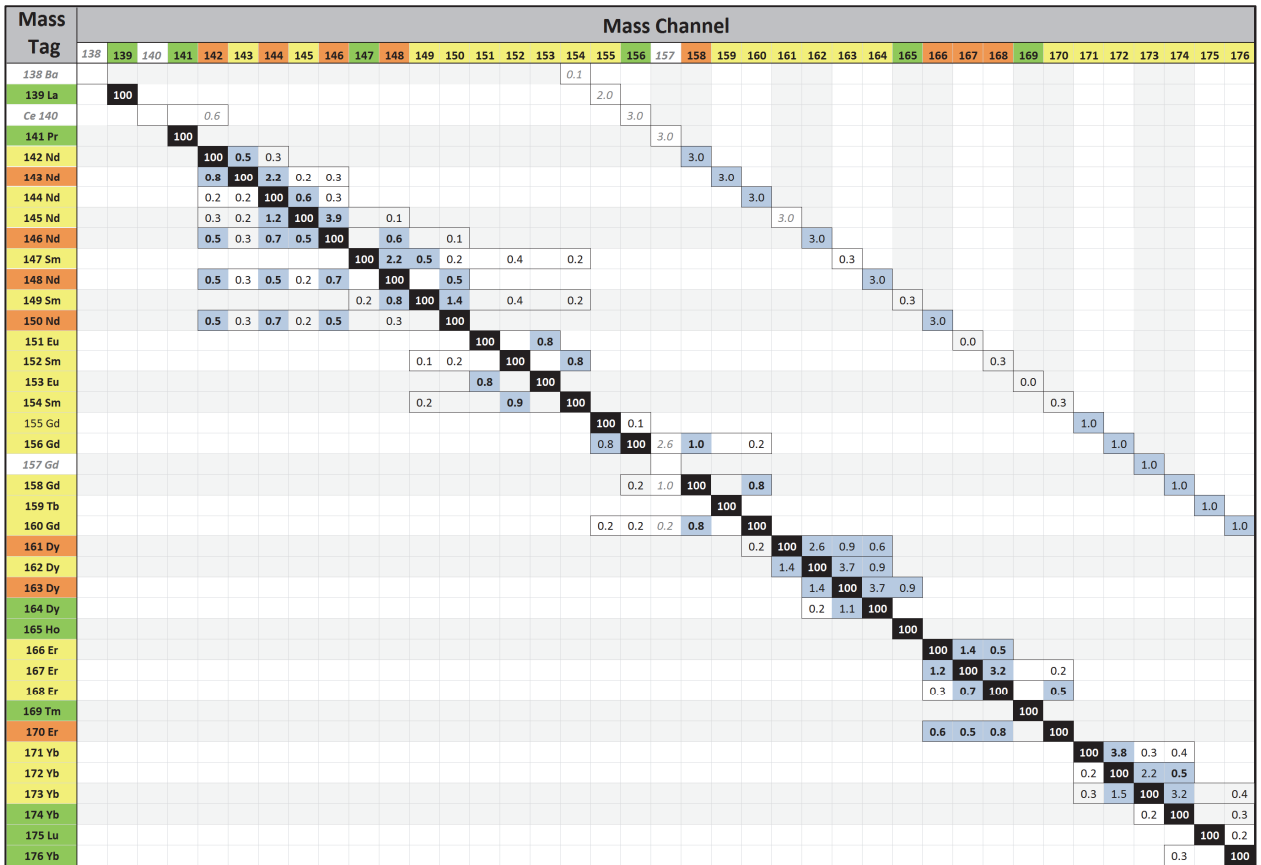

Figure 2: Lanthanide isotope purity and oxide matrix
Some of the lanthanide ions form strong oxides that survive at low levels in the ionizing plasma and appear in the  $M+16$  channels (Figure 2,  $M+16$  boxes). The abundance of lanthanide oxide ions at the high temperature of the plasma ionization source is determined by the atomic ion-oxygen bond strength. Thus, La, Ce, Pr and Nd isotopes produce the largest  $M+16$  signal (typically 2–3%), while the Eu isotopes form the weakest bonds (typically  $< 0.1\%$   $M+16$  signal). Reducing the level of oxides to a minimum is dependent on optimizing the plasma temperature, which is part of the normal tuning procedure.
Naturally occurring elements are a mixture of isotopes which can be commercially obtained in enriched form. The enrichment that is possible for a candidate mass tag is related to the natural abundance of the isotopes of that element, and when the isotope is naturally greater than 20% abundant, an enrichment of better than 98% is often achieved. The purity of each isotope is determined at the time of its production and can be described by a fixed purity matrix (Figure 2) that is independent of the number of parameters measured, the instrument used, or the operating conditions. Values in each mass tag row indicate the relative amount of signal expected in each Mass Channel and are a reflection of the isotopic composition of the purified tag. (See Figure 2 legend for color-code explanation.) Note that we do not offer  $^{155}\text{Gd}$ ,  $^{157}\text{Gd}$ ,  $^{161}\text{Dy}$ ,  $^{163}\text{Dy}$ , and  $^{173}\text{Yb}$  (white boxes) because they are not available in highly pure form.
- b Choose mass tags in channels which receive little or no crosstalk from other metals in the panel (see Table I, green mass tag column and Figure 2, green channels).
- a Choose mass tags which contribute little or no crosstalk signals to the mass channels used for low-abundance antigens (see Table II, green mass tag column and Figure 2, green mass tags).